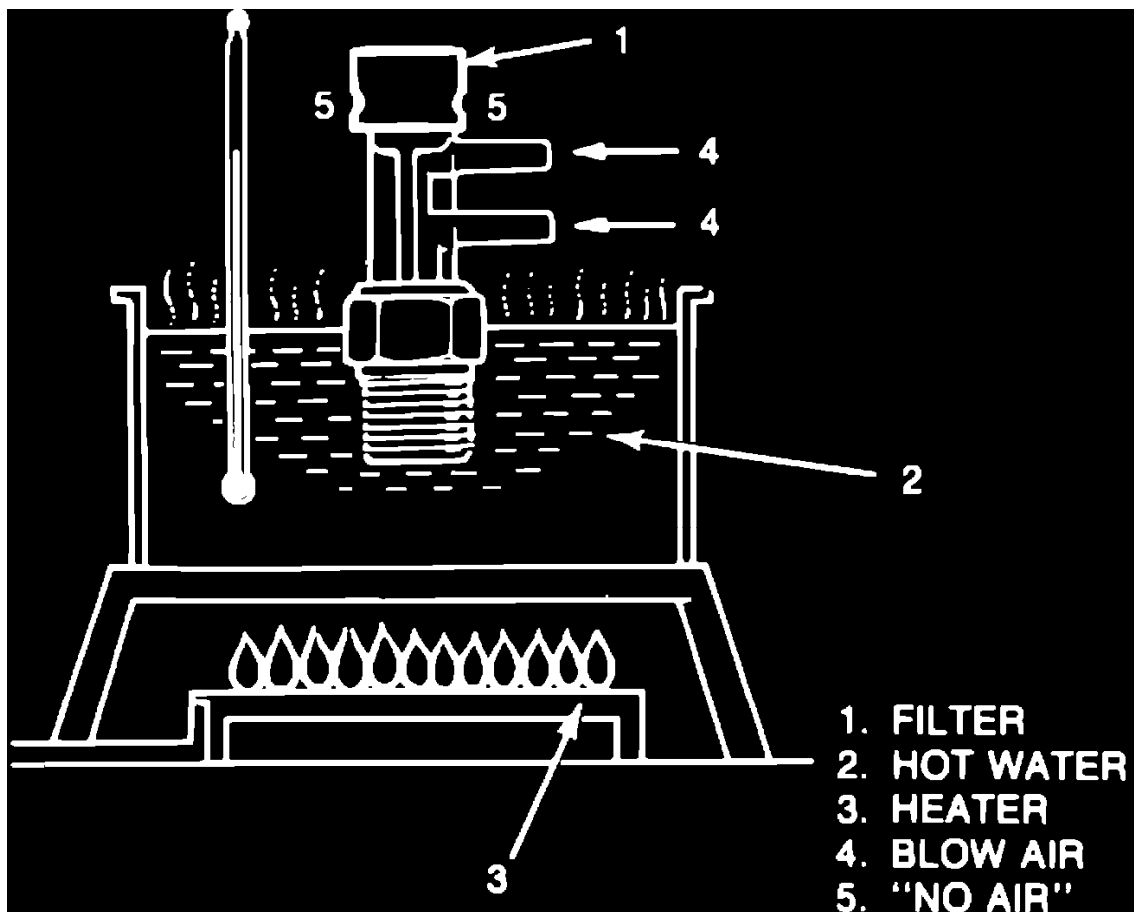

Fig. 15 Checking bi-metal vacuum switching valve high temperature operation
4. With BVSV heated above 140°F (60°C) in hot water, blow air into each nozzle individually, **Fig. 15**. Air should not escape from filter.